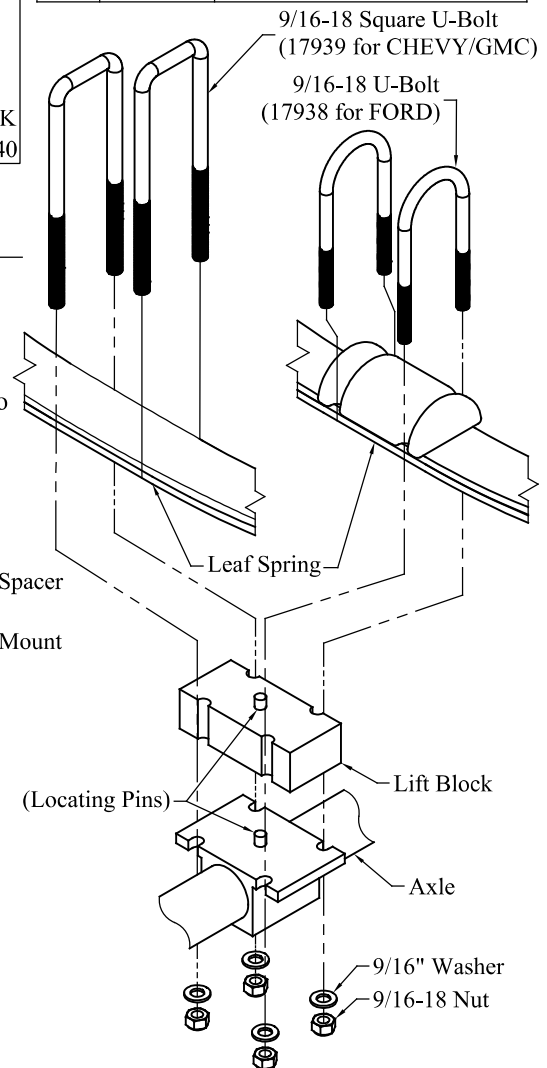

Figure 3: Lift Block Install Process.
2. **Position** lift block to axle and between springs and axle, using locating pins built into the axle and lift block as a guide (Figure 3).